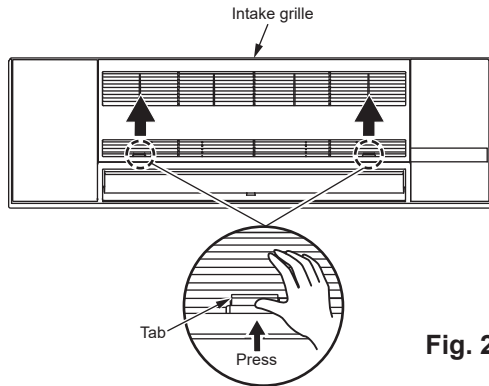

Fig. 2
1. Open the intake grille by pressing the 2 tabs on the intake grille to the direction indicated by arrows. (Fig. 2)